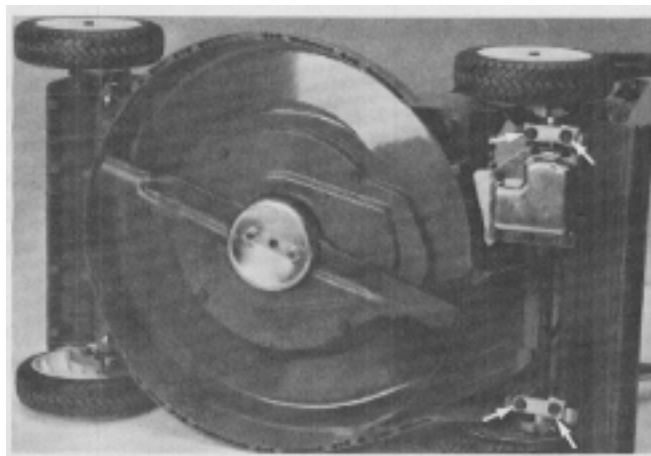

Figure 44
7. Turn the mower onto its right side and remove the four flanged head self-tapping screws securing the end caps to the housing. See Figure 44.